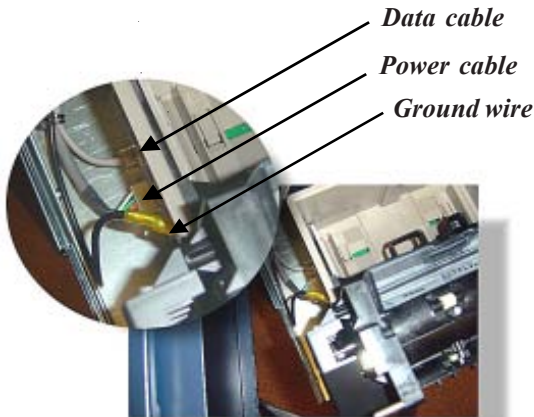

Figure 6. Dispenser cable connections.
6. Connect the dispenser data, power, and ground wire cables to their respective connections on the left side of the TDM-50 (Figure 6).